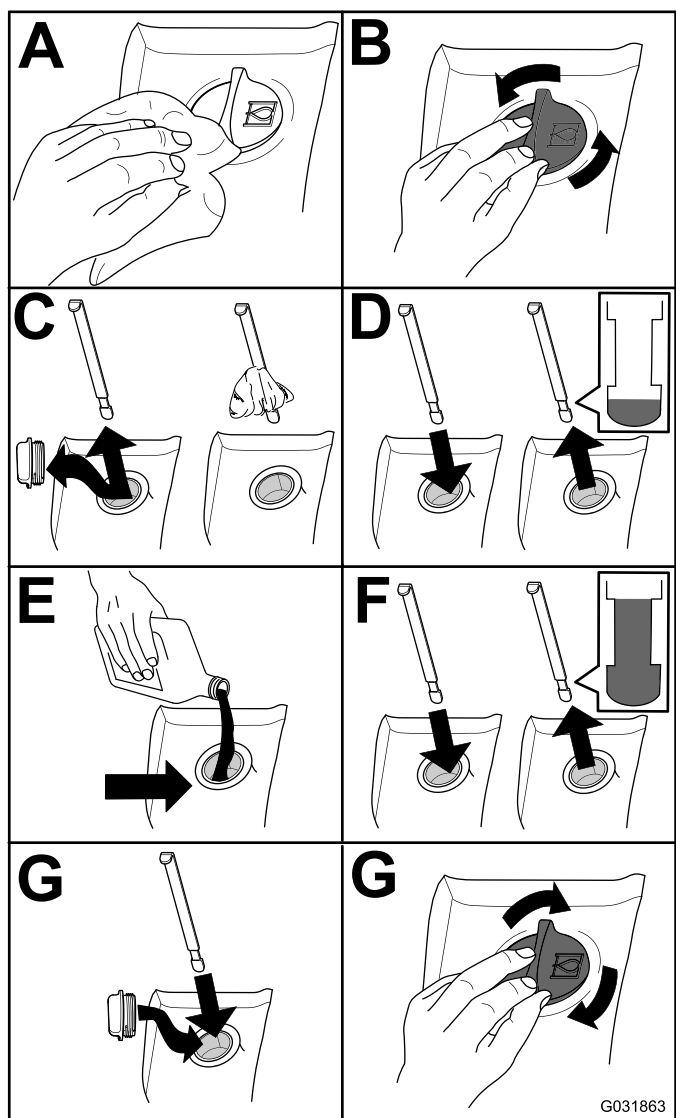

Figure 85
2. Check the hydraulic-fluid level (Figure 85).